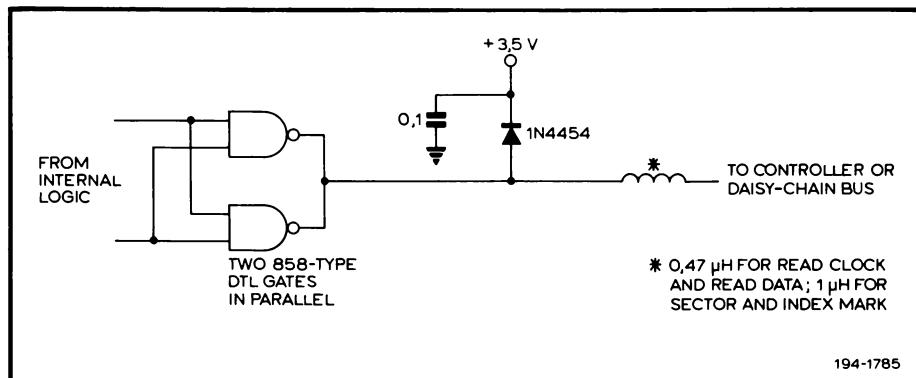

FIGURE 4.4 OUTPUT DRIVER CIRCUIT OF READ CLOCK,
- (a) Read clock and read data output lines are driven as shown in figure 4.4. The lo output level is +0,5 volt maximum at 95 millamps sink current. The hi output level is +3,2 volts minimum with external pull-up resistor.